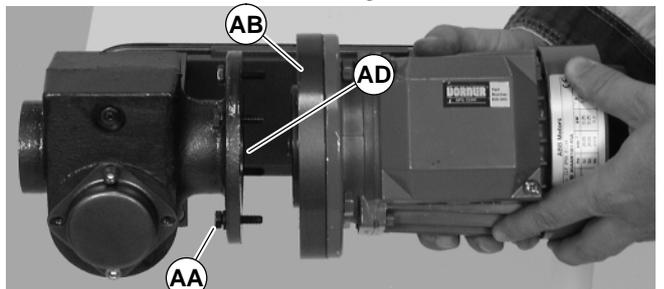

Figure 20
6. With key (AD of Figure 20) in keyway, slide motor with adapter flange (AB) and gear reducer together. Install screws (AA) and tighten.